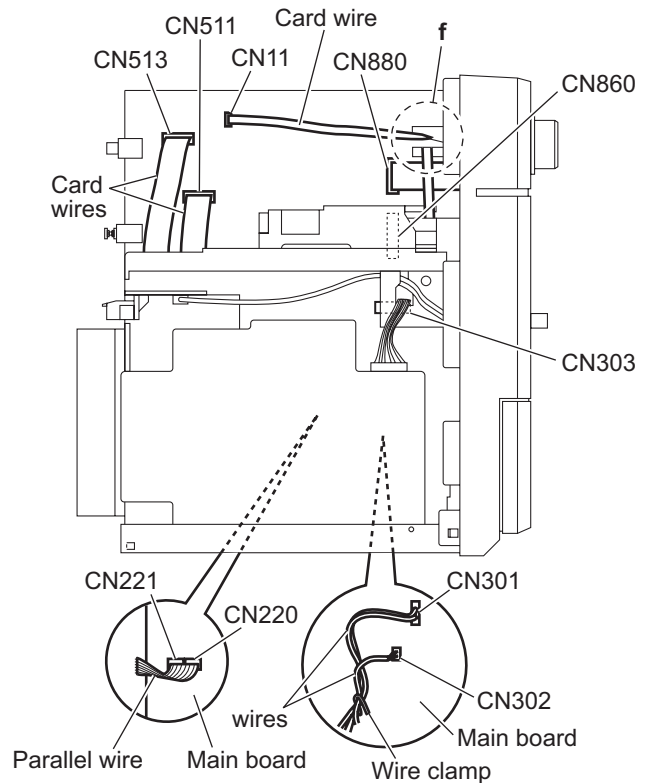

Fig.15
- Remove the wire clamp fixing the wires and disconnect the wires from the connector (CN301, CN302) on the forward side of the main board. (See Fig.15.)
After connecting the wires to the connectors, fix the wires with the wire clamp as before. (See Fig.15.)
- Disconnect the parallel wire from the connectors (CN220, CN221) on the main board. (See Fig.15.)